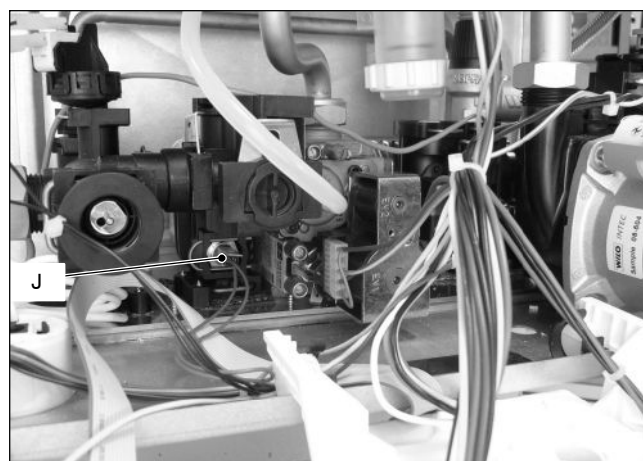

Fig. 8.7
- 5 Disconnect d.h.w. temperature probe, respectively *J* (Fig. 8.7).